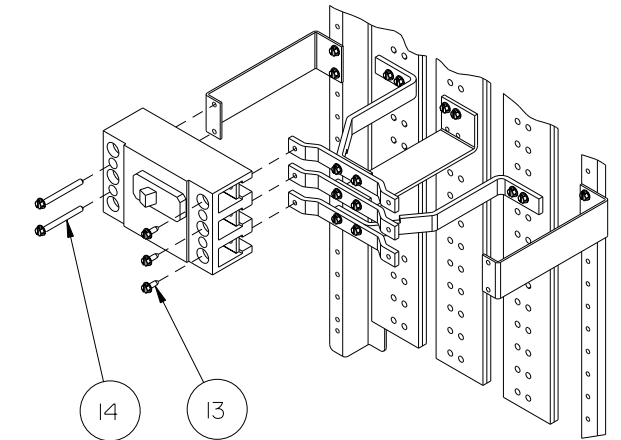

Figure 7
8. Reference fig. 7 - Install a circuit breaker by inserting one 1/4-20 X 5/8" screw (item 13) into each of the three contacts on the line side of the breaker and into the 0.228" diameter holes at the left end of the A  $\phi$ , B  $\phi$  and C  $\phi$  link bars and tighten. Insert two 1/4-20 X 2-3/4" thread forming screws (item 14) into the two mounting holes at the load side of the breaker and into the two 0.228" diameter holes in the QJ mounting bracket and tighten. Torque all connections to the values as specified on the rear of the dead front.